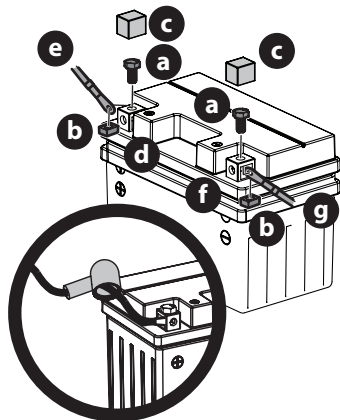

Figure 18
1. Remove the hex screws (a) and square nuts (b) located either on the end of the wiring harness or in the bag with this manual. Retain the hardware for later instructions (Figure 18).
- Remove the plastic cover (c), if present, from the positive battery terminal (d) and attach the red cable (e) to the positive battery terminal (d) with one of the hex screws (a) and square nuts (b), from Step 1. Use a Philips screw driver (Figure 18 on page 13).
- Position the red rubber boot over the positive battery terminal to help protect it from corrosion (inset in Figure 18 on page 13).
- Remove the plastic cover (c), if present, from the negative battery terminal (f) and attach the black cable (g) to the negative battery terminal (f) with the remaining hex screw (a) and square nut (b) (Figure 18 on page 13).